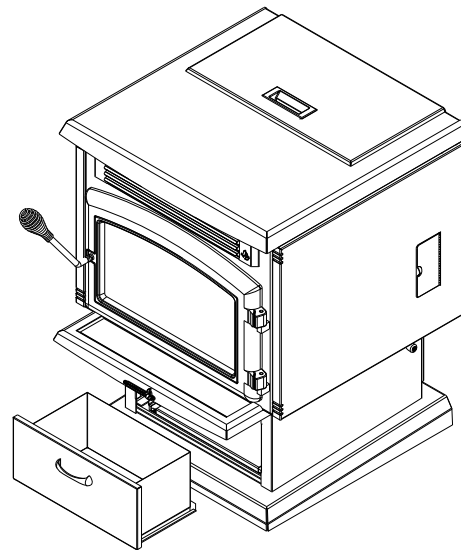

FIGURE 20
- Periodically remove and empty the ash bin (see Figure 20) by opening the front lid of the pedestal below the ash lip. Dispose of ashes properly.